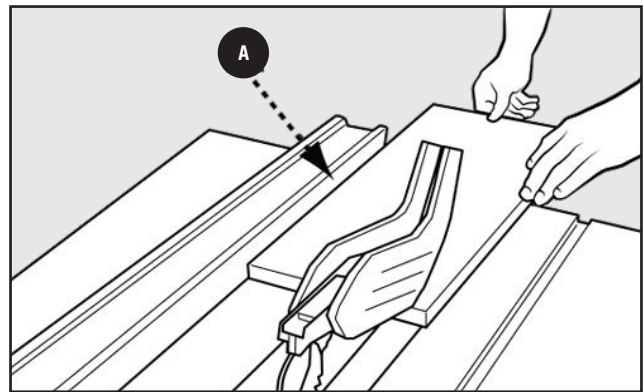

FIGURE 44
8. Hold the workpiece flat on the table and against the fence **A**. The workpiece must have a straight edge against the fence and **MUST NOT** be warped, twisted or bowed. See proper hand position in Figure 44.